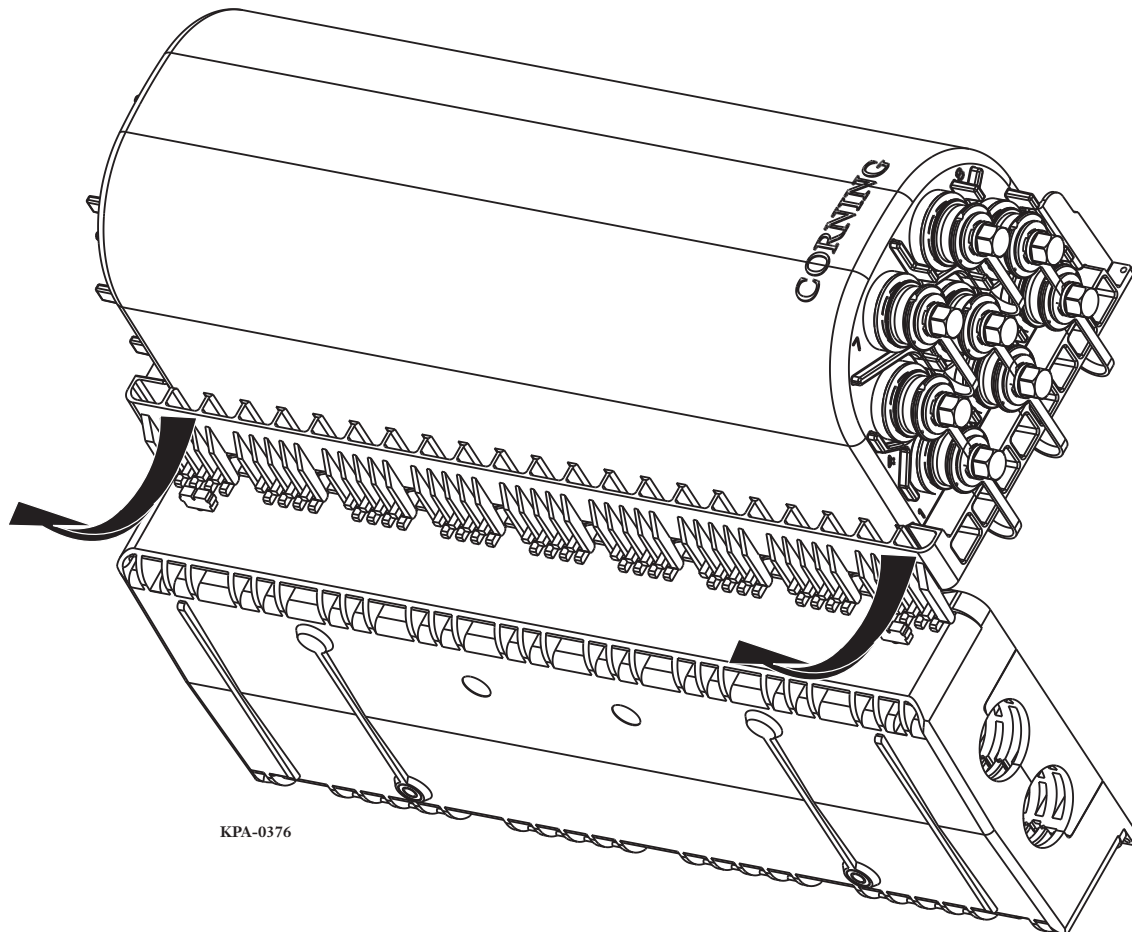

Figure 3
**Step 3:** Position the cover at a 90-degree angle from the base. Push down on the hinge pins until they are free of the hinges in the base. Pull the cover toward you and lift it away from the terminal (Figure 3).